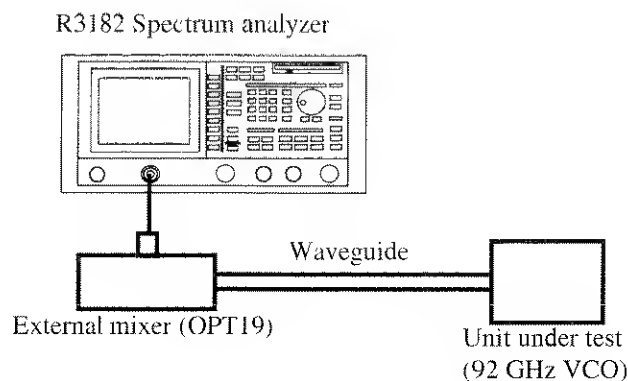

Figure 2-94 Setup for measuring VCO Output Levels
1. Set up the instruments as shown in Figure 2-94.